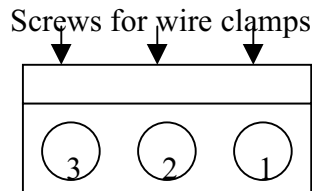

Figure 1. Backside of Plug
- Strip the wires at the opposite end and insert them into the proper opening in the plug (See Figure 1).